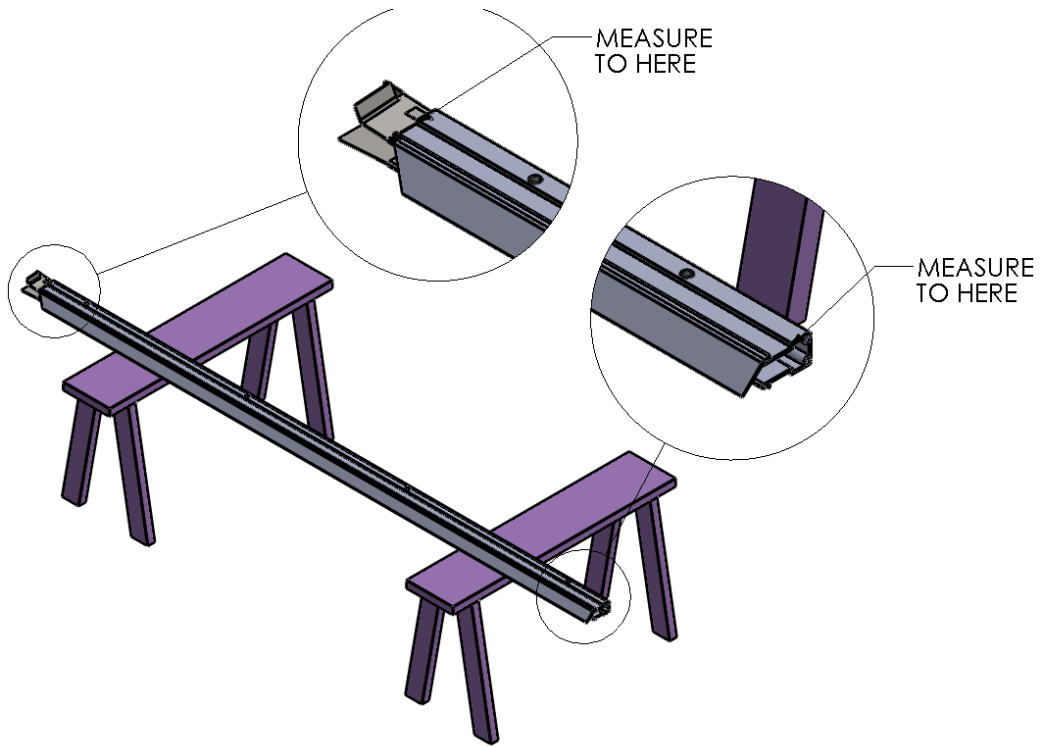

Figure 4 MEASURE TRACK HEIGHT
5. Set one of the Vertical Track Assemblies on your work surface and measure the length of the vinyl Track only. ADD 7-1/4" to this number and take note. This is the height dimension needed to mark the location of the top edge of the Header Mounting Brackets. With this number, add a horizontal line on each side of the opening that intersects the previously drawn vertical line marking the overall width of the roll assembly. (Note: This mark should be 7-1/2" above the opening height.) (Figure 4 MEASURE TRACK HEIGHT) (Figure 5 MARK TRACK HEIGHT)
6. Using two (2) people, and two ladders at minimum, raise the Header Assembly to fit between, and below, your markings on the wall. Trace the insides of its oval mounting slots onto the wall mount surface (a Sharpe permanent marker works great for this). Be sure that its top edge is on the height line, and that the outer edge is on your vertical overall width line.
7. Predrill through the centers of the traced locations for the mounting hardware, three (3) pilot holes on each side.